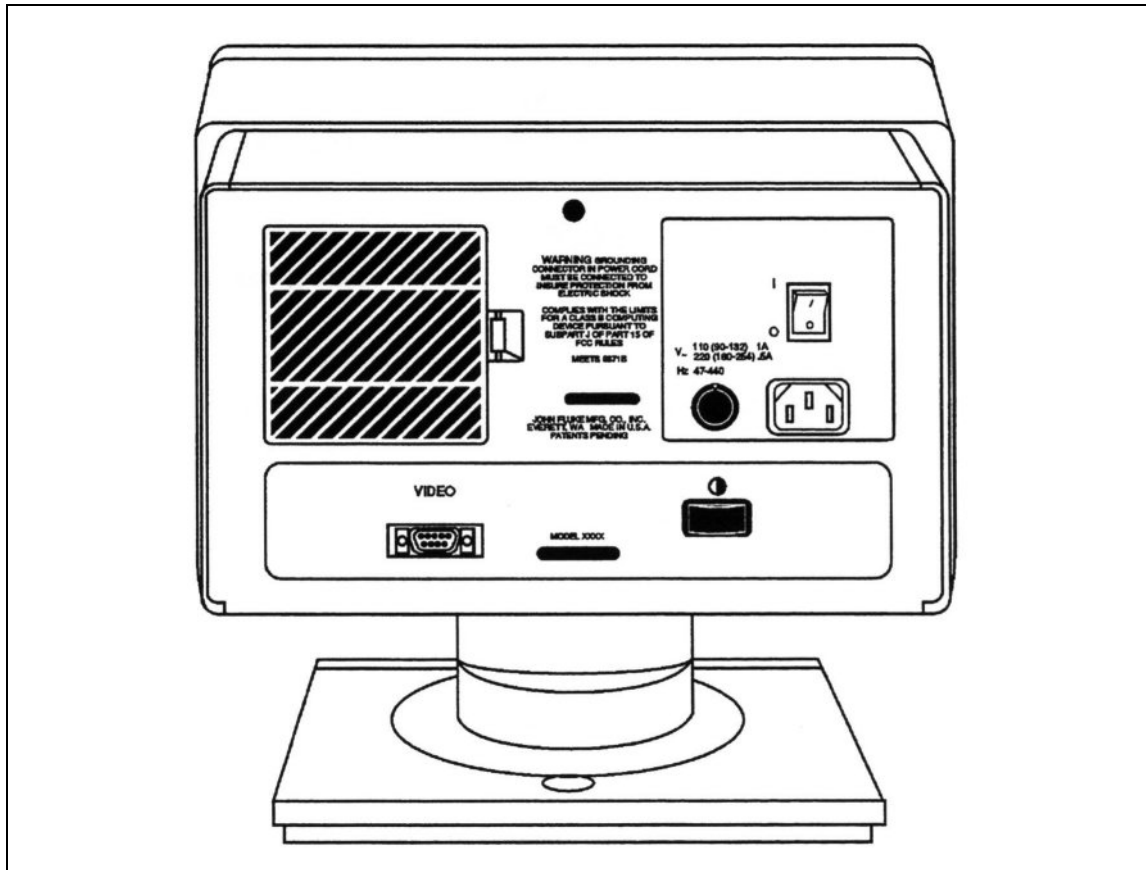

Figure 4-4. Monitor Rear Panel
1. Remove the five Phillips rear panel securing screws. Do not remove the power panel. See Figure 4-4.